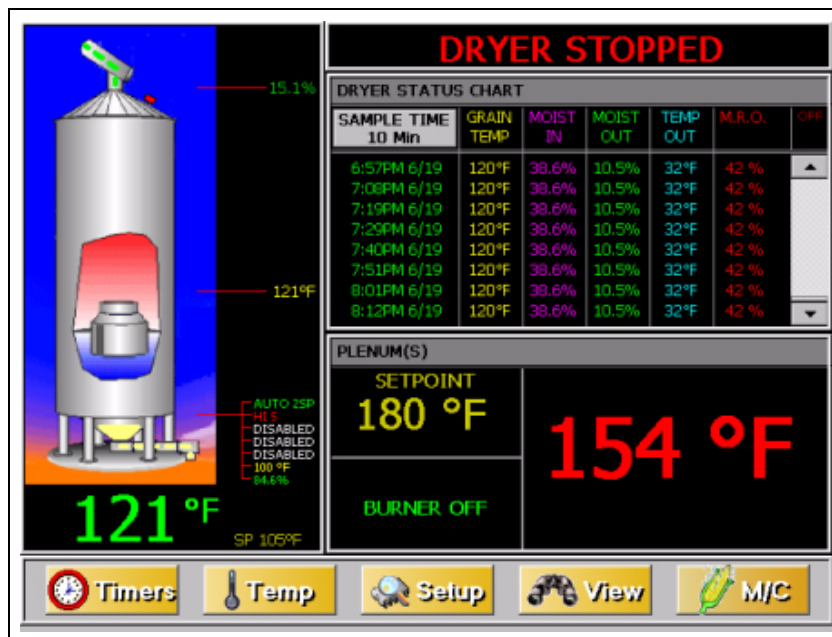

Figure 5S
1. **Table View:**  **Table View** This is the “Default Operation Screen”. (See Figure 5S.)